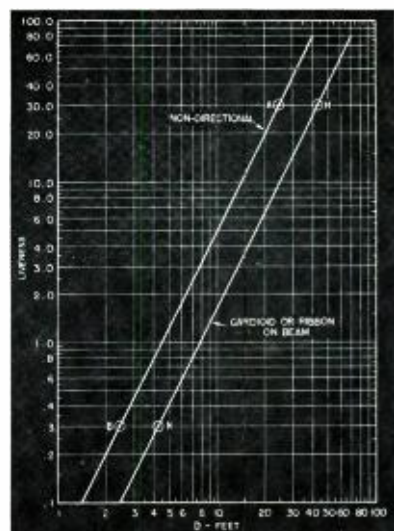

Figure 5 — Typical chart used for positioning General and Accentuation Microphones in active studios.
Where studios are in active use, a set of curves as shown in Figure 5 may be prepared. To aid you in preparing such a chart the following typical case is worked out in detail.
Plot these two points (A and B of Figure 5) and connect them with a straight line. From this chart the distance  $D$  corresponding to any desired value of liveness may be obtained for a nondirectional microphone.
To obtain the plot for bidirectional or cardioid microphones proceed in a similar manner letting  $G_p = 3$ . Then we obtain the points M and N, Figure 5. Connect these with a straight line.
4. Determine the distance  $D$  from Equation (2) or from the studio chart typified by Figure 5. If you are using this microphone for accentuation of the string section or any other group of artists,  $D$  represents the distance from the microphone to the nearest artist in that group.